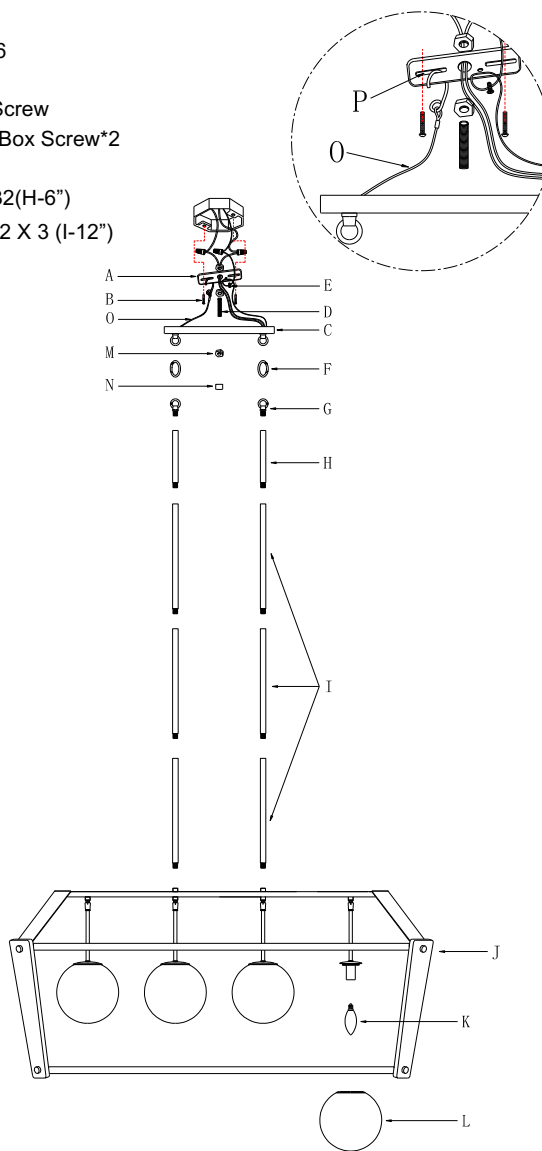

Fig. 2
CONNECTING THE WIRES (Fig. 2)
8. Connect electrical wires as shown in Fig.2, making sure that all wire connectors are secured. If your junction box has a ground wire (green or bare copper), connect the fixture's ground wire to it. Otherwise, connect the ground wire directly to the crossbar (A) using the green screw (E) provided.